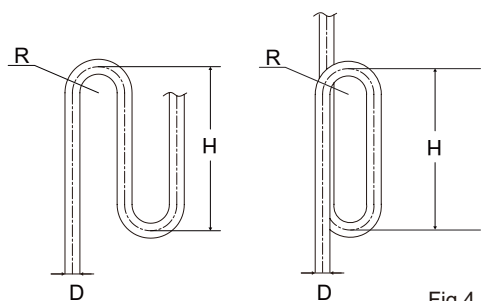

Fig 4.12
- When the outdoor unit is above the indoor unit, and the level difference exceeds 20 m, it is recommended that an oil return bend be set up at every 10 m interval on the gas pipe of the main piping. The recommended specifications of the oil return bend are as shown in figure 4.12.
Requirement: The largest level difference between indoor unit and outdoor unit should not exceed 30m (if the outdoor unit is above) or 20m (if the outdoor unit is below). Additionally: If the outdoor unit is above and the level difference is greater than 20m, it is recommended that an oil return bend with dimensions as specified in Figure 4.12 is set every 10m in the gas pipe of the main pipe.